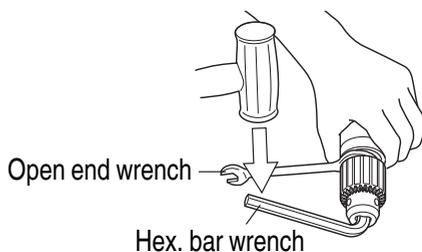

Fig. 12
- (4) Removing chuck from angle unit (Fig. 12)